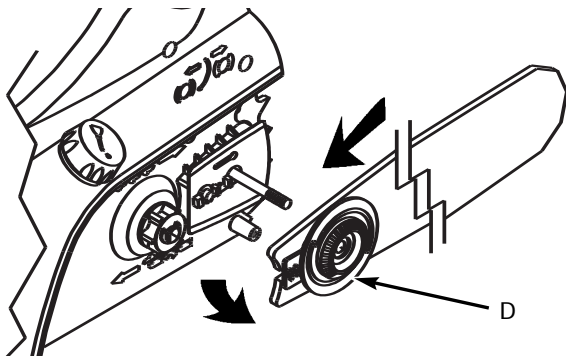

Fig. 18
4. Remove saw chain from around the guide bar and the sprocket. Slide the guide bar, with tension plate (D) attached, from the unit. (Fig. 18)